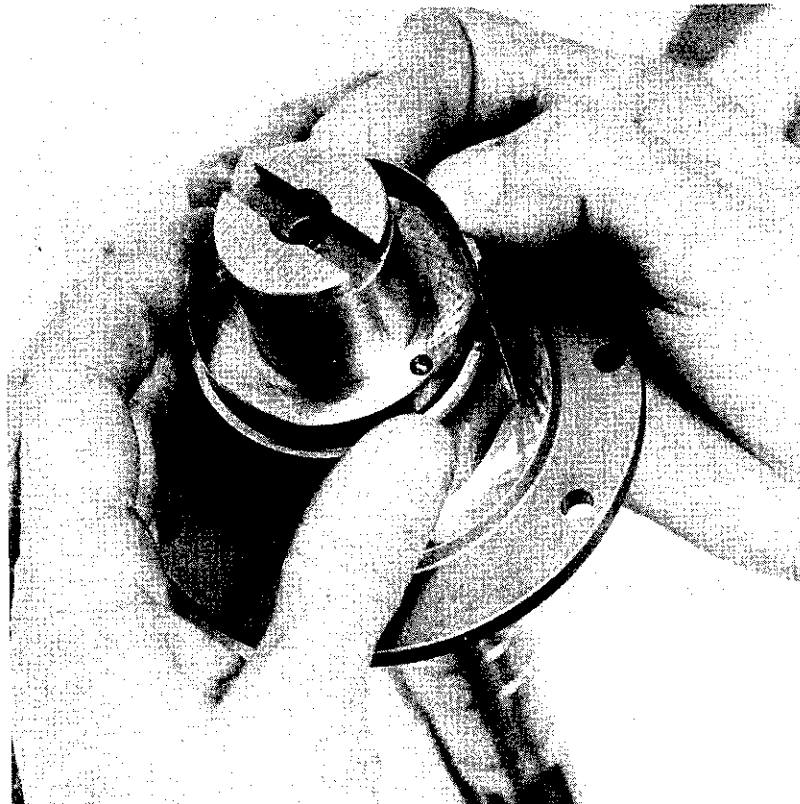

Fig. 9 Piston rings – fitting procedure
6. Where a loading tool is not available use a thin metal strip, long enough to lay along the shaft above the grooves. Expand each ring just sufficient to allow them to be placed in approximate position over the strip. Gently remove the strip and locate the rings in their respective grooves, (See Fig.9).